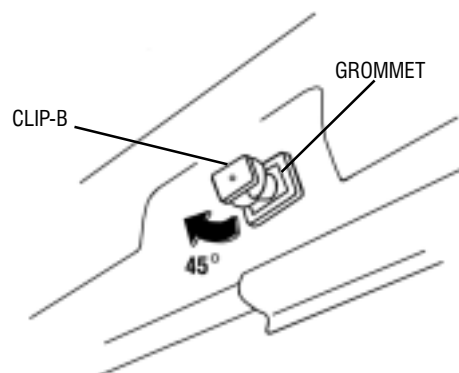

FIGURE 12
- 6.) ROTATE CLIP B 45° (SEE FIGURE 12) AND REMOVE IT FROM THE GROMMET.